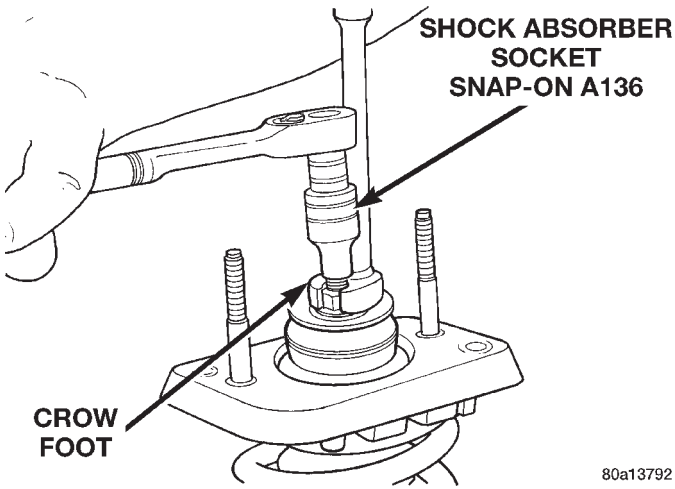

Fig. 54 Shock Absorber Shaft Nut
(5) Hold the rod of the shock absorber from rotating using Shock Absorber Socket, Snap-On A136 or an equivalent (Fig. 54). Then remove the shock absorber shaft nut.
equivalent on end of shock rod to keep rod from turning (Fig. 54). Then tighten rod nut using a crowfoot (Fig. 54) to a torque of 55 N·m (40 ft. lbs.).